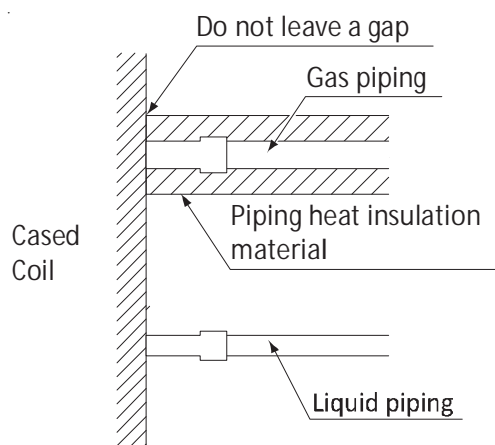

Figure 10
- After checking for gas leaks, be sure to insulate the piping connections as shown in Figure 10.